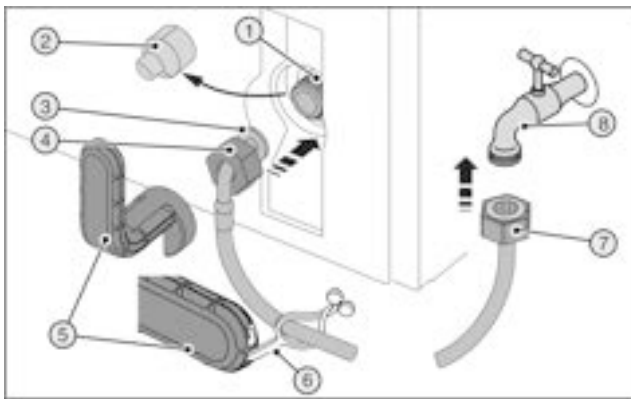
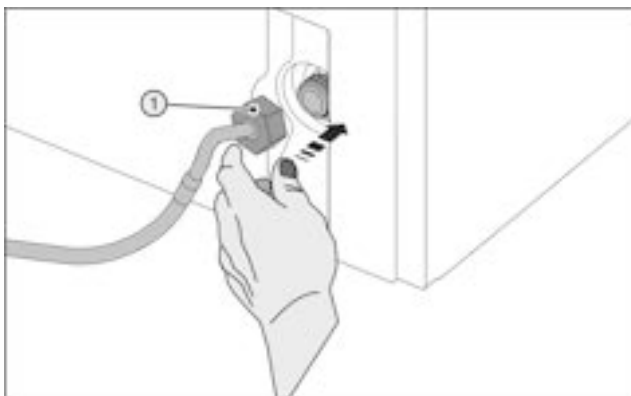

Fig. 28
Fig. 29
Broken auxiliary tool Fig. 28 (5).
- ▶ Only use an auxiliary tool Fig. 28 (5) at room temperature.
- ▶ Remove the cover Fig. 28 (2).
- ▶ Easy to fit: Place the straight end of the hose Fig. 28 (7) to the left on the floor.
- ▶ Slide the nut Fig. 28 (4) over the angled end of the hose Fig. 28 (3) up to the end and secure.
- ▶ Position the nut Fig. 29 (1) carefully and screw it directly onto the thread with two fingers until it is seated securely.
- ▶ Tighten the nut Fig. 29 (1) clockwise with the auxiliary tool Fig. 28 (5) until maximum torque is reached and the auxiliary tool Fig. 28 (5) overtightens.
- ▶ Screw the nut Fig. 28 (7) onto the stopcock Fig. 28 (8).
- ▶ Tighten the nut Fig. 28 (7) clockwise with the auxiliary tool Fig. 28 (5) until maximum torque is reached and the auxiliary tool Fig. 28 (5) overtightens.
- ▶ Turn the water supply stopcock Fig. 28 (8) on and check the whole water system for leaks.
- ▶ Hook the clip Fig. 28 (6) into the auxiliary tool Fig. 28 (5) and fix it to the stainless steel pipe to store it.